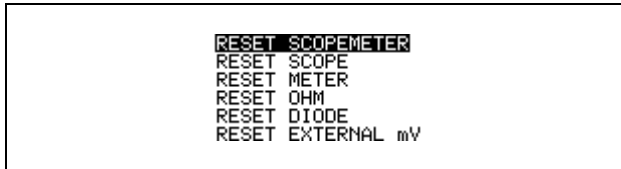

Figure 6-12. Reset Menu Window
2. Press to open the RESET menu (see Figure 6-12).